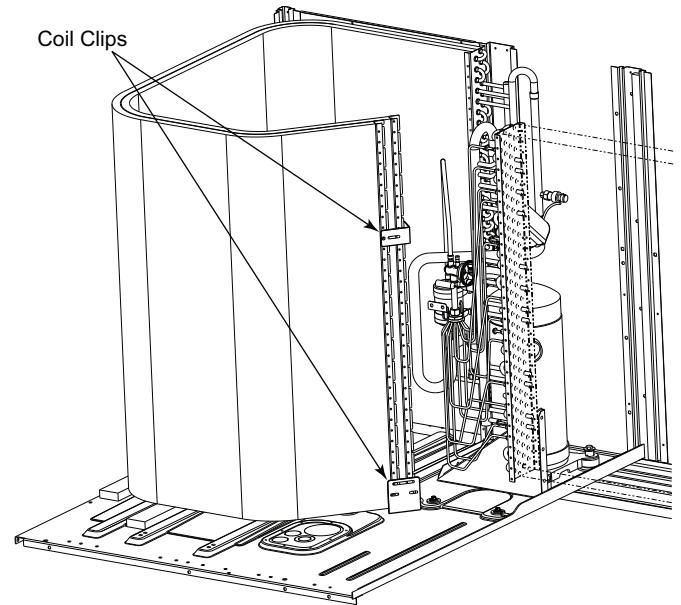

Fig. 20 — Condenser Coil Clips
5. Remove the screws from both sides of the upper and lower coil retaining clips on the hairpin end of the coil tube sheets. See Fig. 20.